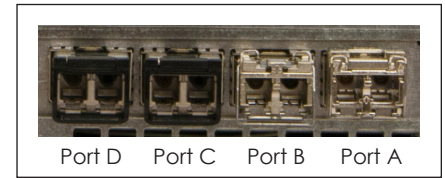

Figure 4: Fiber-Optic Ports
2. Insert duplex LC fiber-optic cables into their corresponding ports. The cables will click into place when seated properly. Refer to **Figure 4**.